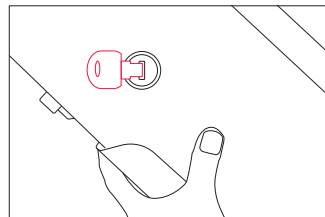
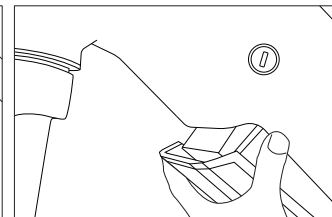

Figure 3
Figure 4
Step 2: To remove the battery, first support the lower battery casing with your palm(fig 3). Insert the key and turn it counterclockwise by a certain angle. Then, press down on the key and turn it again to detach the battery(fig 4).